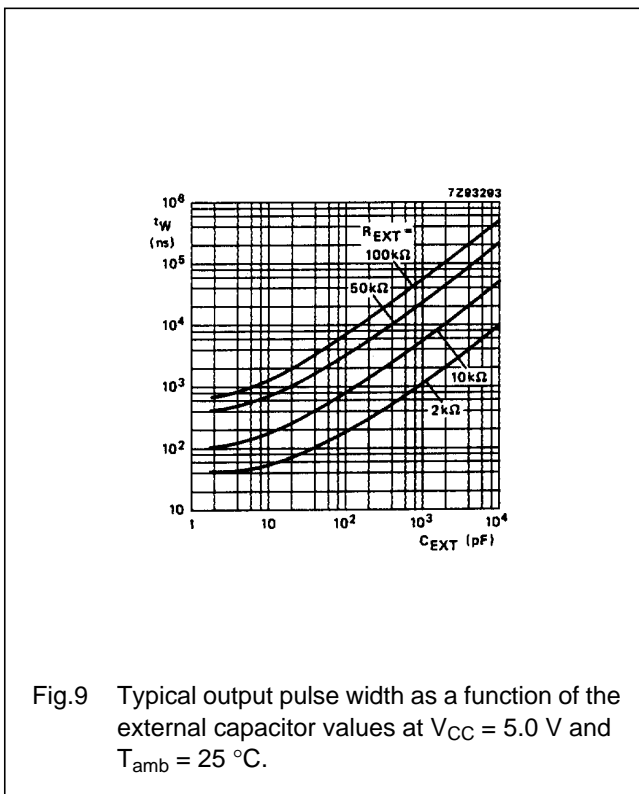

Fig.9 Typical output pulse width as a function of the external capacitor values at $V_{CC} = 5.0 \text{ V}$ and $T_{amb} = 25 \text{ }^\circ\text{C}$.
- For other R_{EXT} and C_{EXT} combinations see Fig.9.